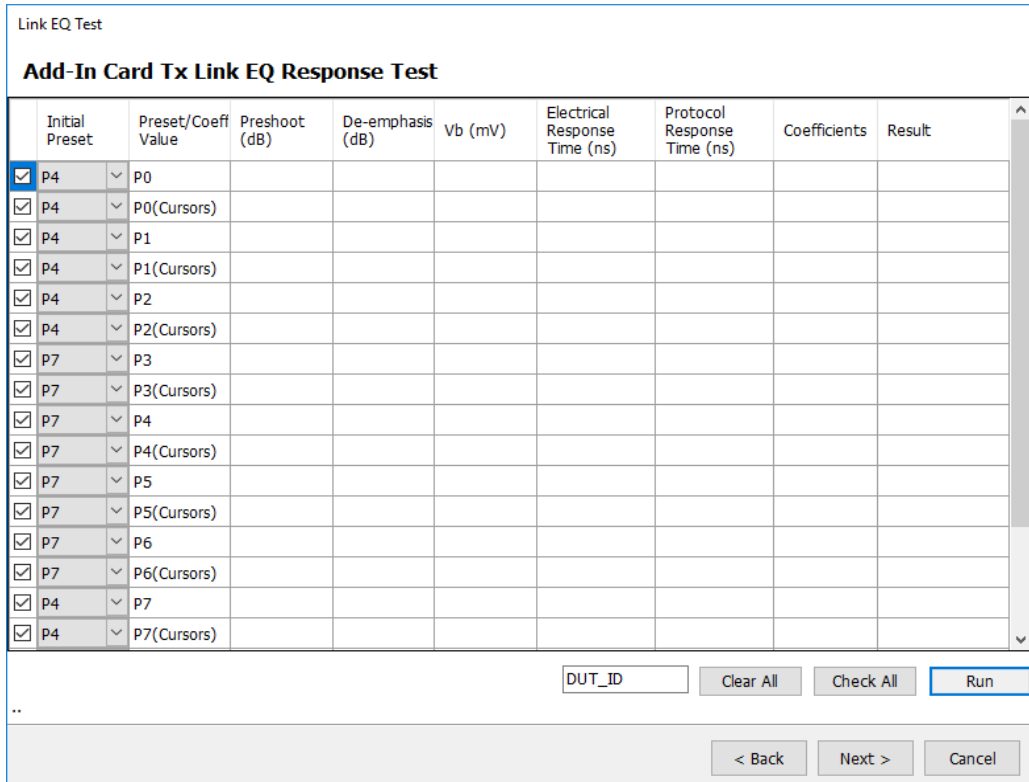

Figure 40
3. Initialize the BSX Series BERTScope using PC based PCIe 3.0 Test application and train the DUT and negotiate to 8.0 GT/s by setting the *Initial Preset* and *Preset Value* in Figure 40.
5. Check all or any Preset and click Run to put the DUT into Loopback and get the Values in the Measurement Panel as shown in Figure 40 (Use the default combination of *Initial Preset* and *Preset/Coefficients Value* to get the maximum electrical changes in waveform). If Step 4 is not enable then Power on the DUT when Red Flash message “Power ON DUT” shows up in Initiate Loopback Panel.